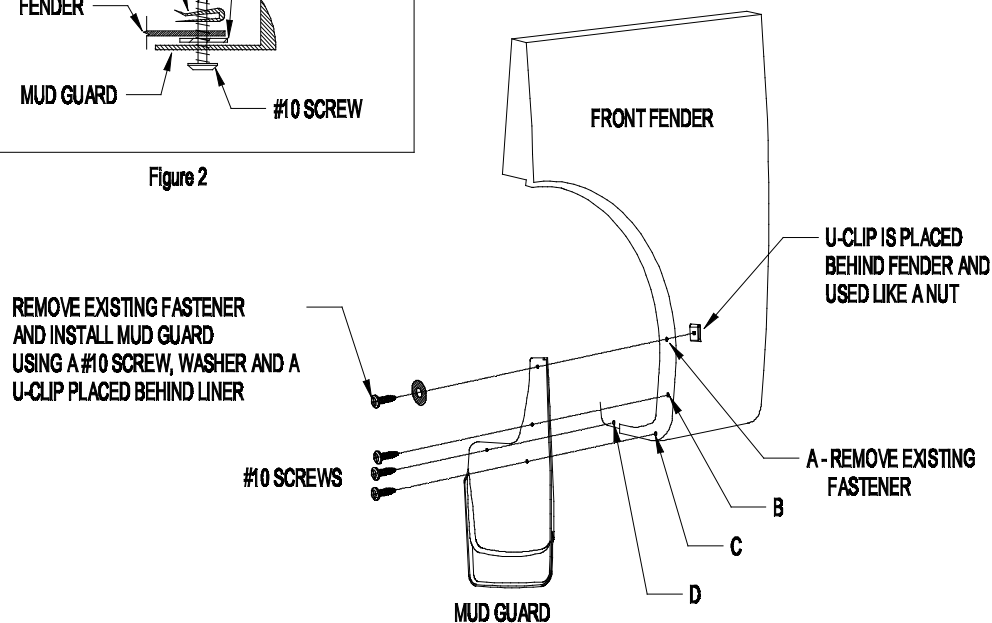

Figure 1
2. Remove existing fastener from location A (see Figure 1).
4. Using mud guard as a template, mark, center punch, and drill 1/8" holes at locations B, C & D (Figure 1).